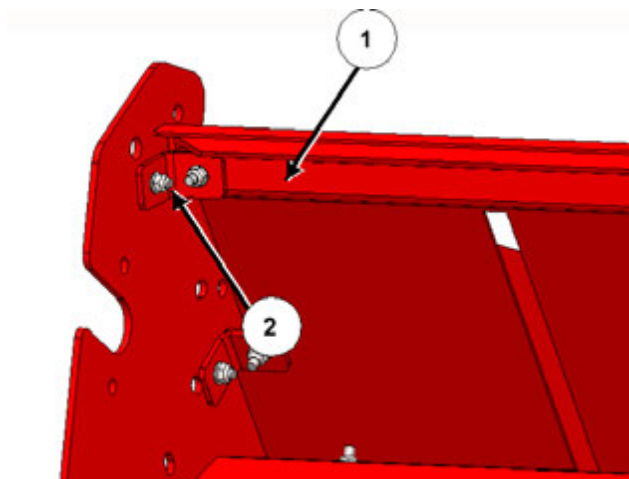

Figure 7: Remove crossbar
- a. Remove the deflector brace/crossbar (1); see *Figure 7*:
- i. Remove the bolt fastening the tub mount (2) to the tub wall, and the bolt fastening the tub mount (2) to the crossbar (1).